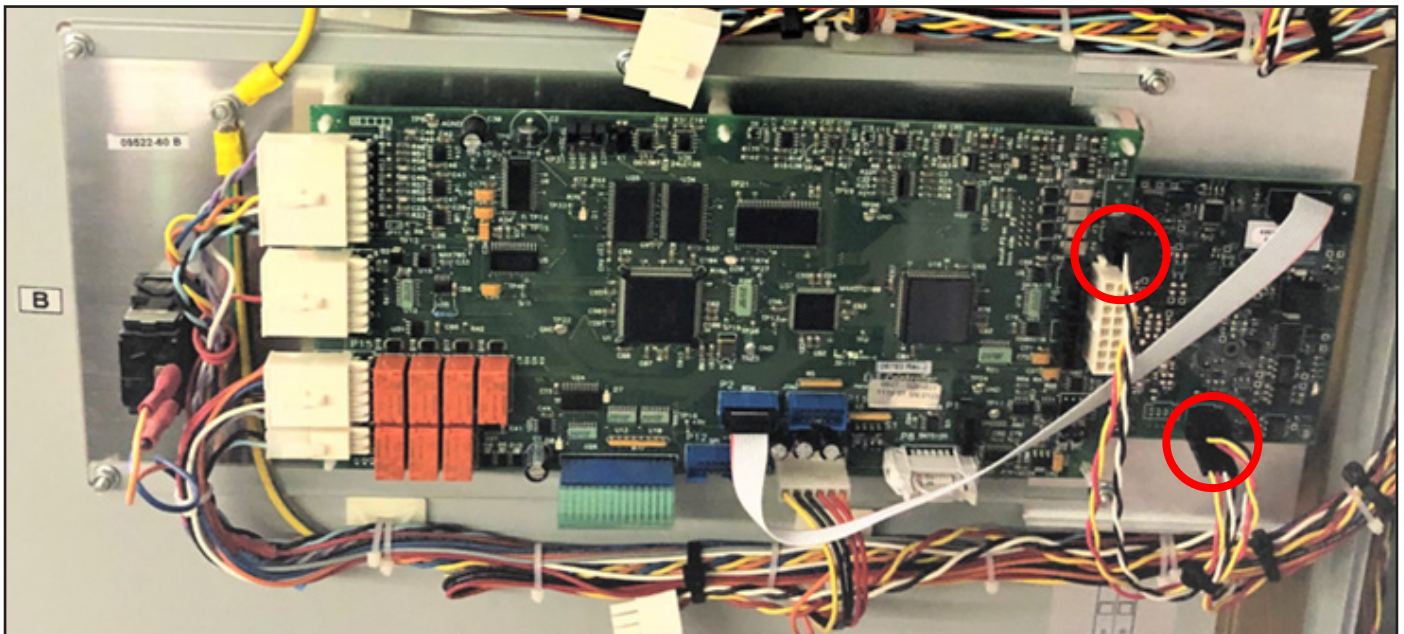

Figure 17 P101 Cable Connected from the J101 Connector on the CAN Board to the J2 Connector on the Channel B of DVS100/DVS150 Control Board
15. Connect the P101 cable from the J101 connector on the Channel B of DVS100/DVS150 CAN board to the J2 connector on the DVS100/DVS150 control board (Figure 17).